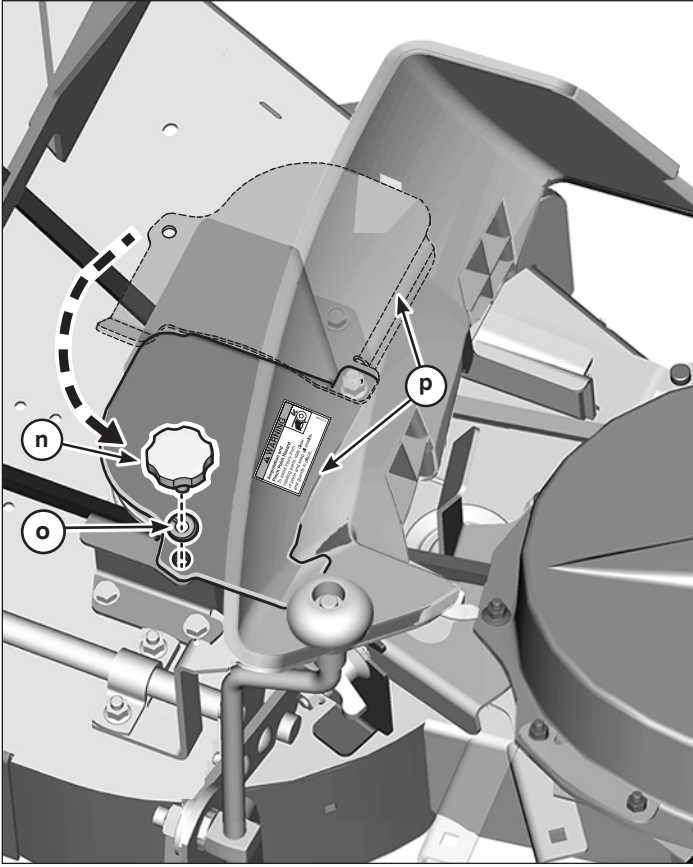

Figure 16
7. Rotate pulley cover (p, Figure 16) back and secure with lockwasher (o) and knob (n).